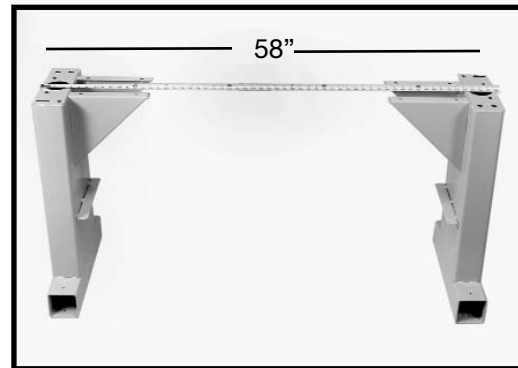

Fig. 5
2. Set pedestals exactly 58" apart (Fig. 5).